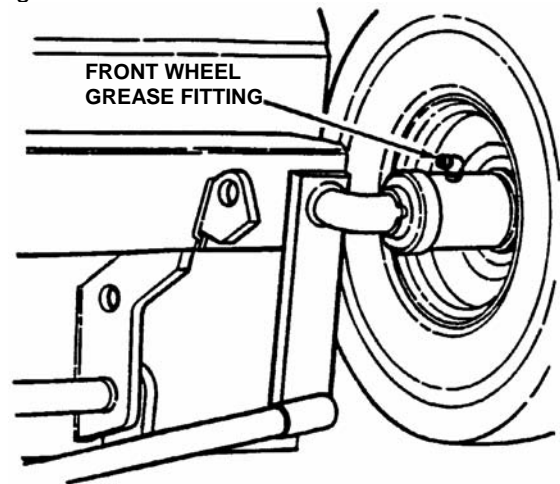

FIGURE 3.6
1. Lubricate front wheel bearings with five shots of general purpose grease, from grease gun. See Figure 3.6.